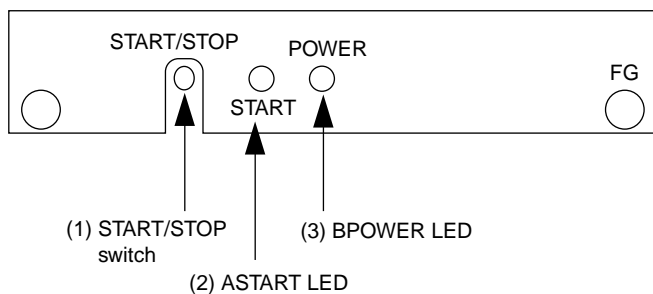

Figure 3.11 Boot Mode Settings
(7) Setting Up Boot Mode
Set the switches as shown in table 2.9, then press the START/STOP switch on the adapter board ((1) in figure 3.11). The START LED turns ON.
(5) Setting up for user program mode
Set the switches shown in table 2.10, then press the START/STOP switch on the adapter board ((1) in figure 3.11). The START LED lights and user program mode starts.
(6) Running the on-board programming software